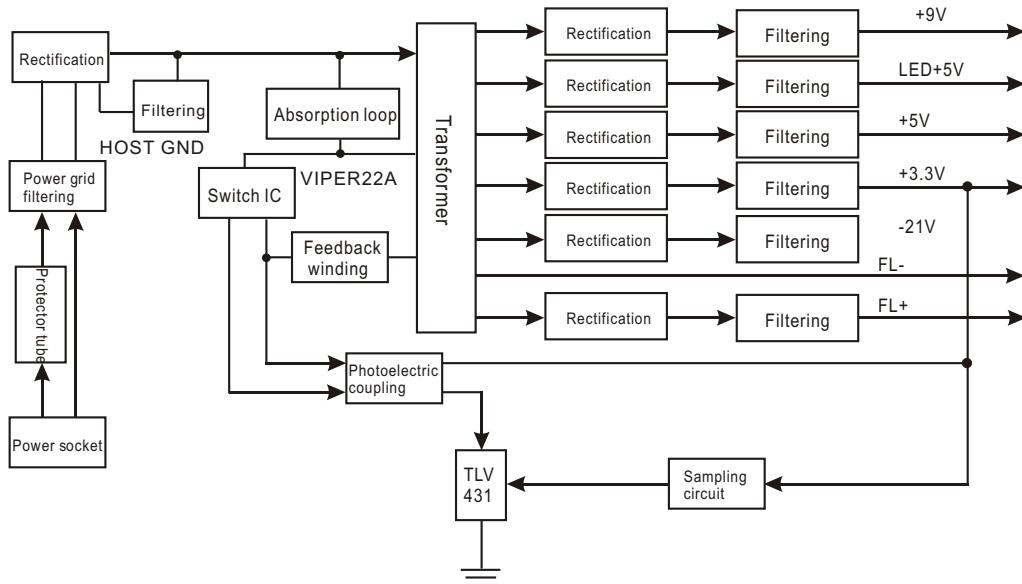

Figure 3.2.12.1 Power circuit block diagram
1. Power circuit block diagram is shown as in the following figure 3.2.12.1: